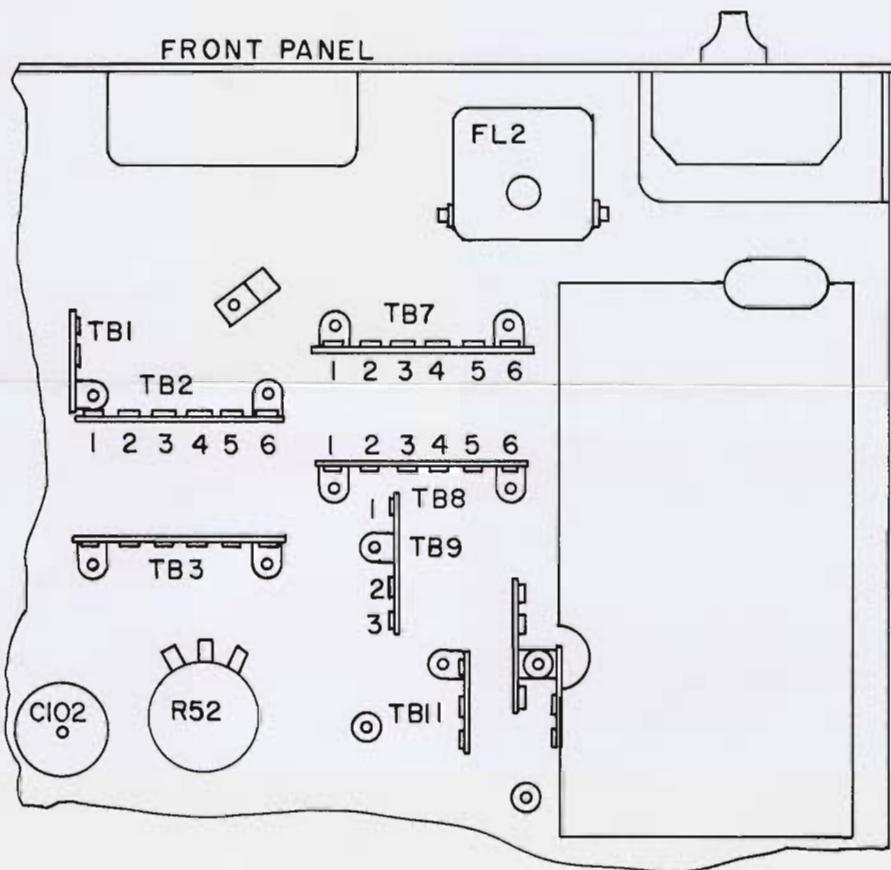
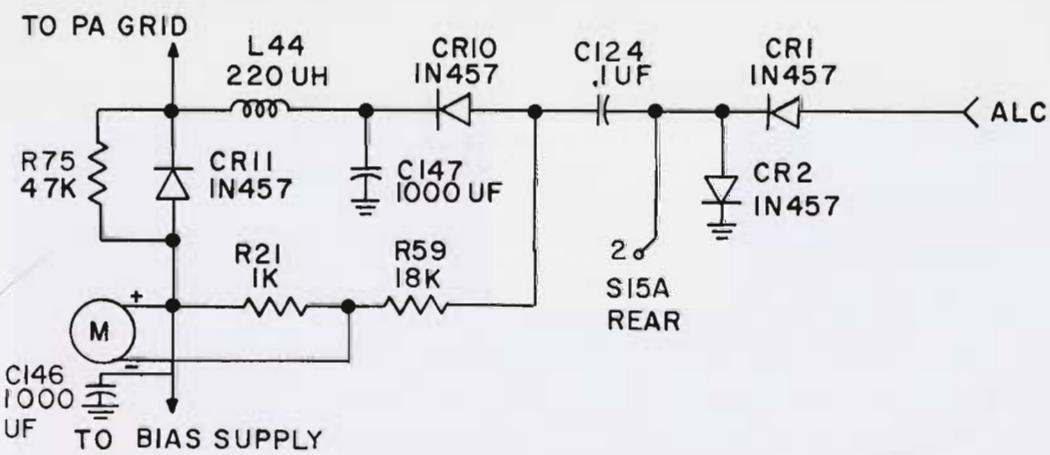

Figure 1. Partial Bottom View of 62S-1
Figure 2. Schematic Diagram of Changes Resulting from this Modification
5. Place the unit upside down on the working surface with the panel closest to the operator. Refer to figure 1 for chassis layout and figure 2 for schematic diagram of modified circuit. (Reference also may be made to the 62S-1 Instruction Book, figure 6-2 for chassis layout.)